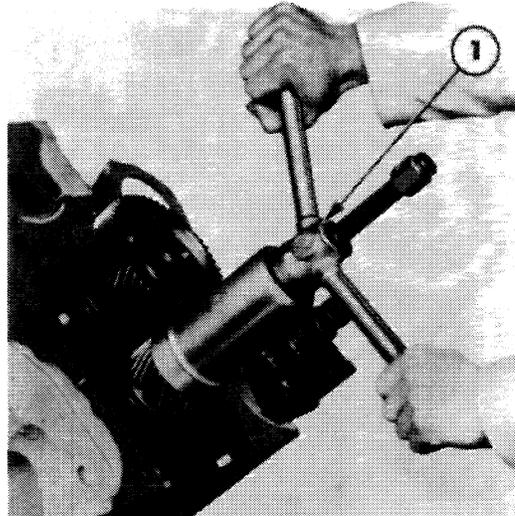

Figure 24
2. Locate the key then use Tool No. CT 6069-A and Adapter CT 6069-1 to install the crankshaft gear, Figure 24.